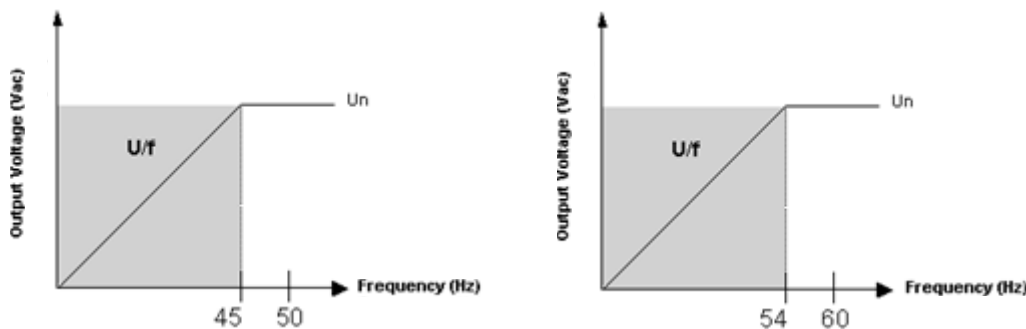

Figure 4.2: Actuation point for U/F protection
The **U/F** trimpot determines the trigger point of the U/F mode, which can be the nominal frequency ( $F_n$ ) down to 1/3 of  $F_n$ , and leaves the factory adjusted to 10% below  $F_n$ . For operation in 60Hz it is adjusted to 54Hz and for operation in 50 Hz it is adjusted to 45Hz (see Figure 4.2). These values can be altered according to the needs of each application.
1. Do not set the U/F protection below 20 % of the rated alternator frequency. The configuration should be done according to Figure 4.2 to avoid problems when shutting down.